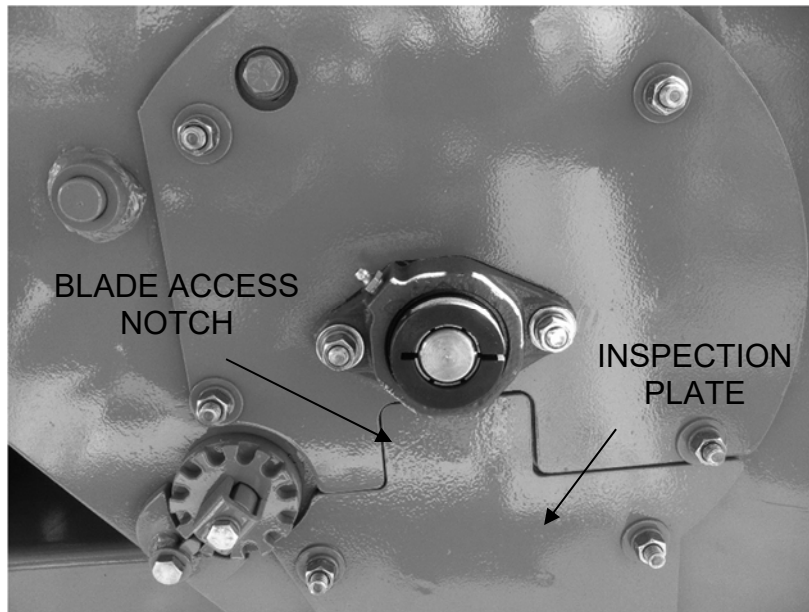

FIGURE 4.4.1
1. Remove inspection plate below outside blast wheel bearing by removing the 1/2 inch nuts and washers and the one 3/8 inch nut and washer (SEE FIGURE 4.4.1).